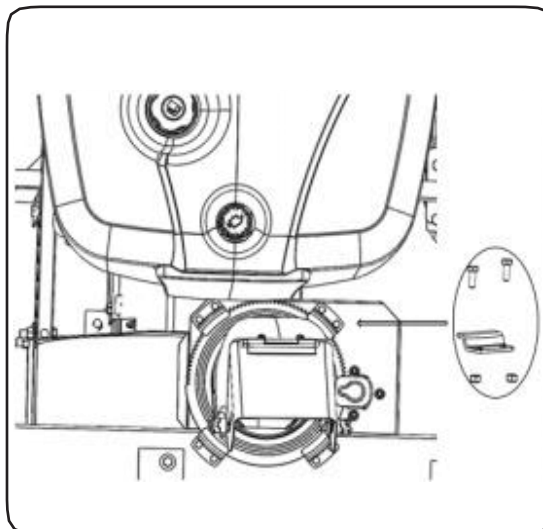

Figure 2-3
1. Install the snow chute on the big cover, as shown in figure 2-3. Use four screws, six M6x16 bolts and eight M6 locking nuts. See Fig. 2-3